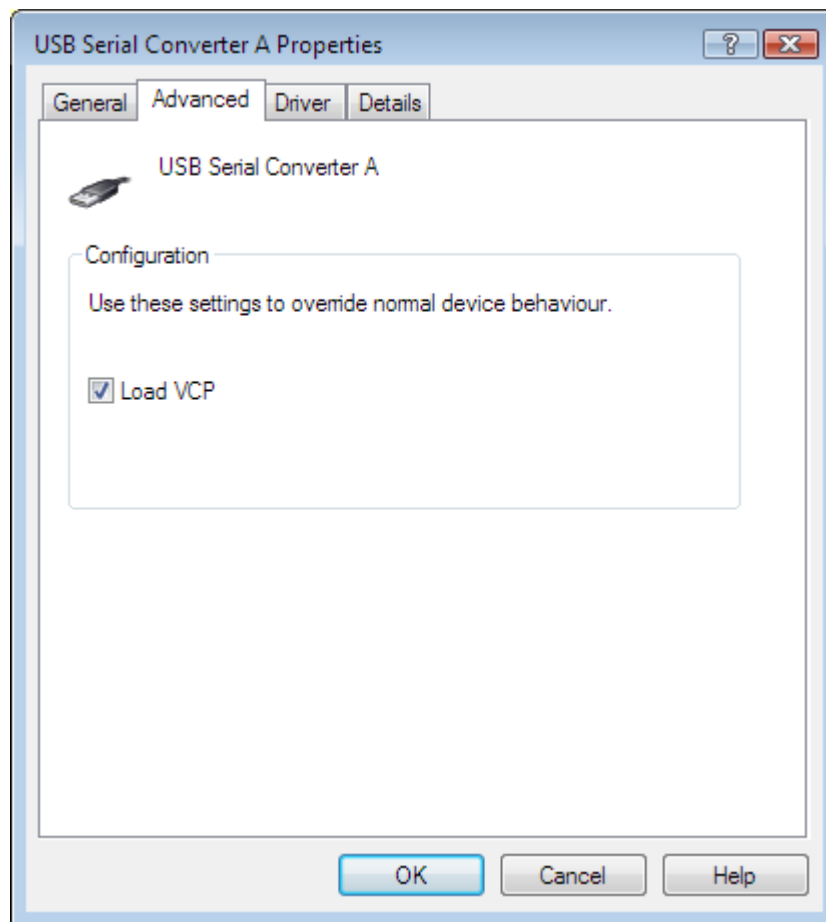

Figure 1-5 USB Serial Converter Properties
- III. Double-click on **each** *USB Serial Converter* entry and under the *General* tab, confirm that the manufacturer is FTDI. Then, under the *Advanced* tab, make sure the *Load VCP* checkbox is ticked (see Figure 1-5). If the checkbox isn't ticked, you will need to tick for each Serial converter and then unplug and re-insert the Dock.